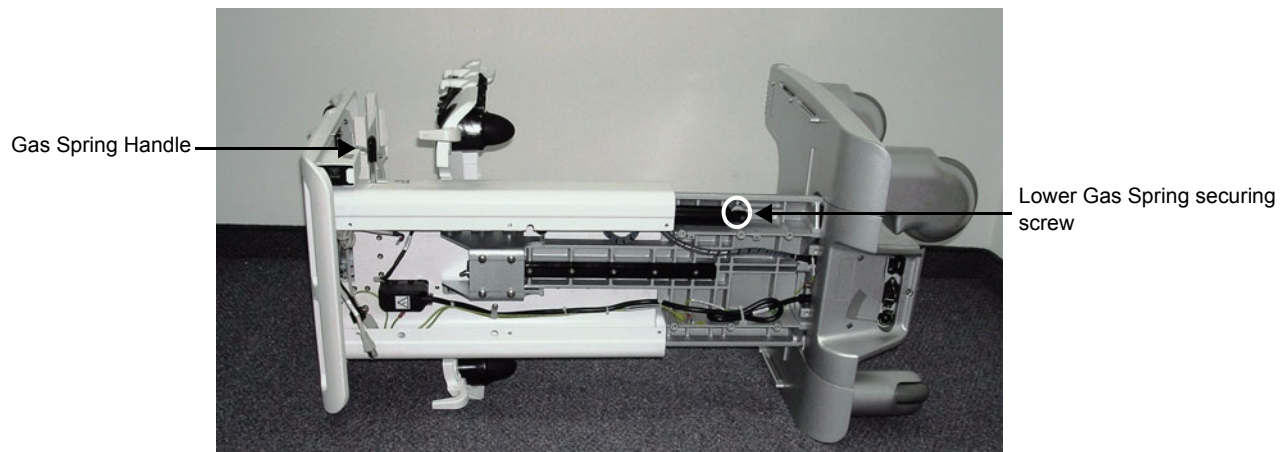

Figure 8-96 SafeLock Cart shown with Gas Spring Handle Uppermost
- 1) Return the replacement USB board to its position on the SafeLock Cart chassis and secure it with the upper and lower bolts previously removed - see Figure 8-96.